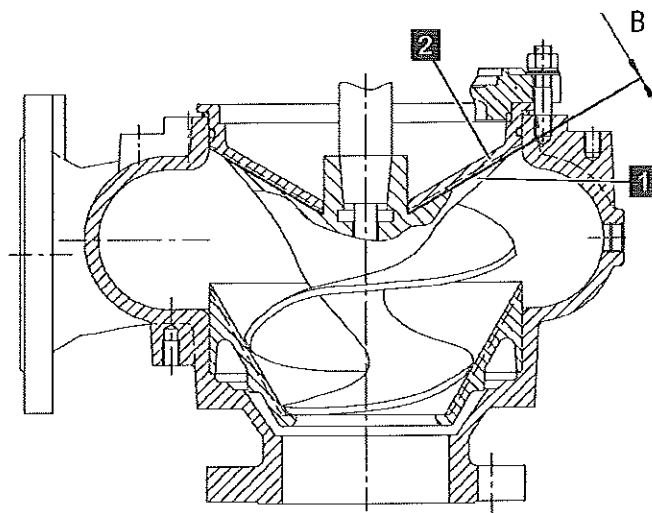

Fig. 72
2. ▶ Measure clearance "B" (Fig. 72) between impeller and rear cone or seal via feeler gauge at several points in the circumference.